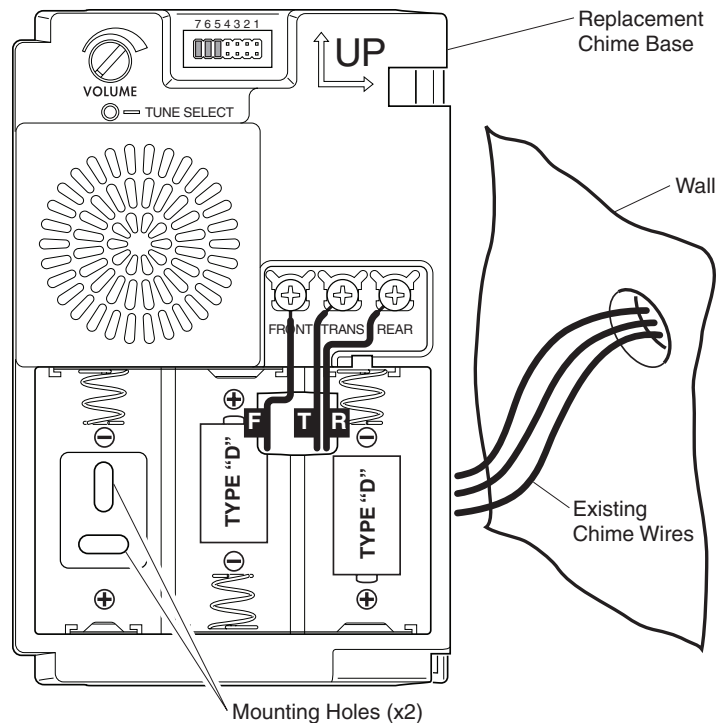

Figure 4
7. Route wires through wire entrance hole in new chime base (see Figure 4). **Note:** DO NOT install batteries if connecting chime to transformer wires.
9. Connect wire "F" to screw terminal marked "FRONT". Connect wire "T" to screw terminal marked "TRANS". Connect wire "R" to screw terminal marked "REAR"* (See Figure 4).